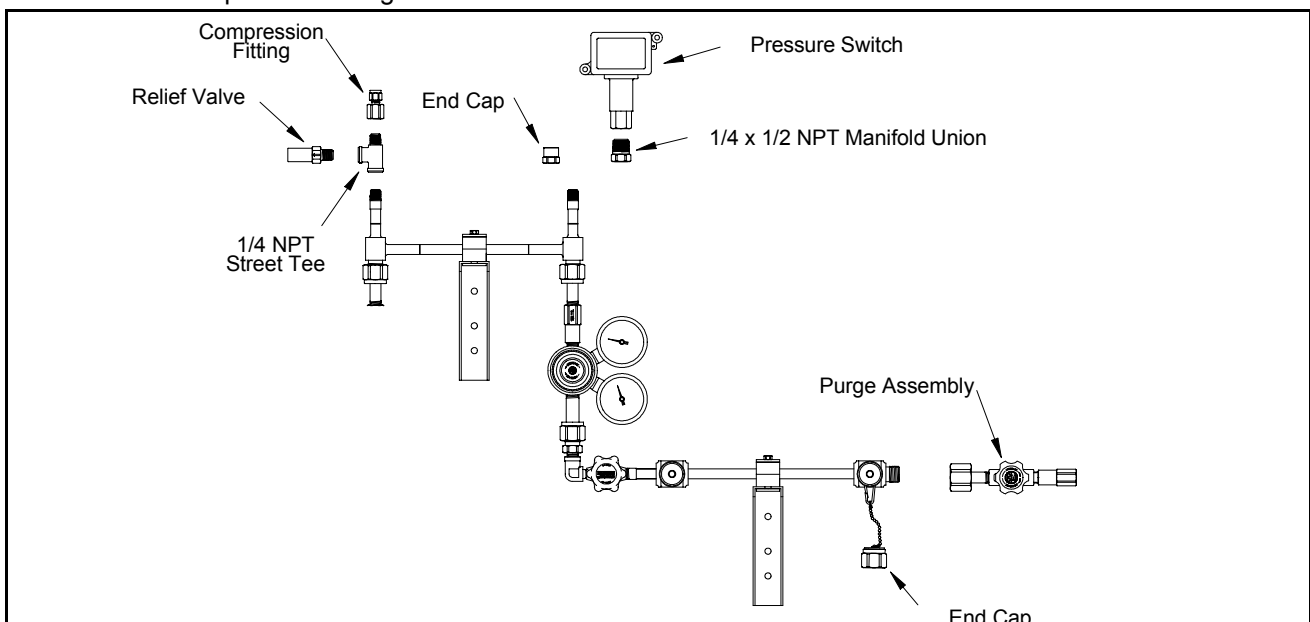

FIGURE 6
1. A 1/4" tube compression fitting is supplied with the control and is located at the left of the manifold "H" section. Connect the pipeline system to this fitting. The fitting provided permits removal of the manifold for service. (Figure 6)
1. Remove the cap on the right side of the "H" section (Figure 6).
3. Install the pressure switch onto the 1/2 NPT fitting (Figure 6).
1. Remove the cap on the ends of the manifold headers (Figure 6).
2. Connect the purge assembly to the ends of the headers (Figure 6).
A relief valve may be installed into the manifold outlet as shown in figure 6.